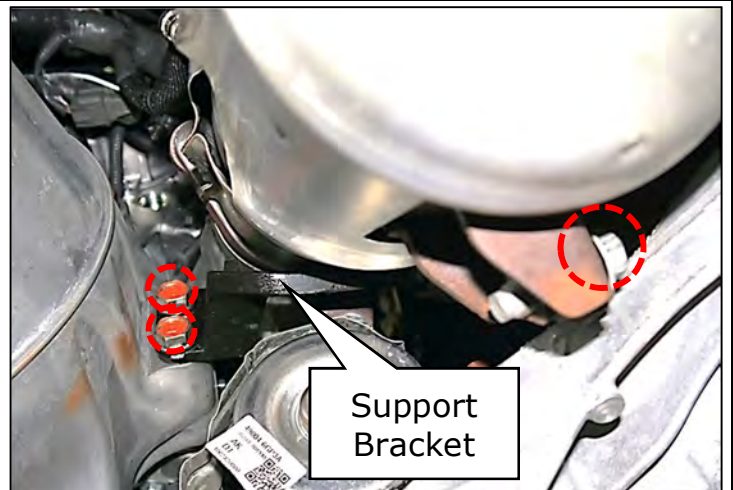

Figure 62
- Remove the (2) bellhousing bolts and (1) bolt securing the RH catalytic converter support bracket (Figure 62)